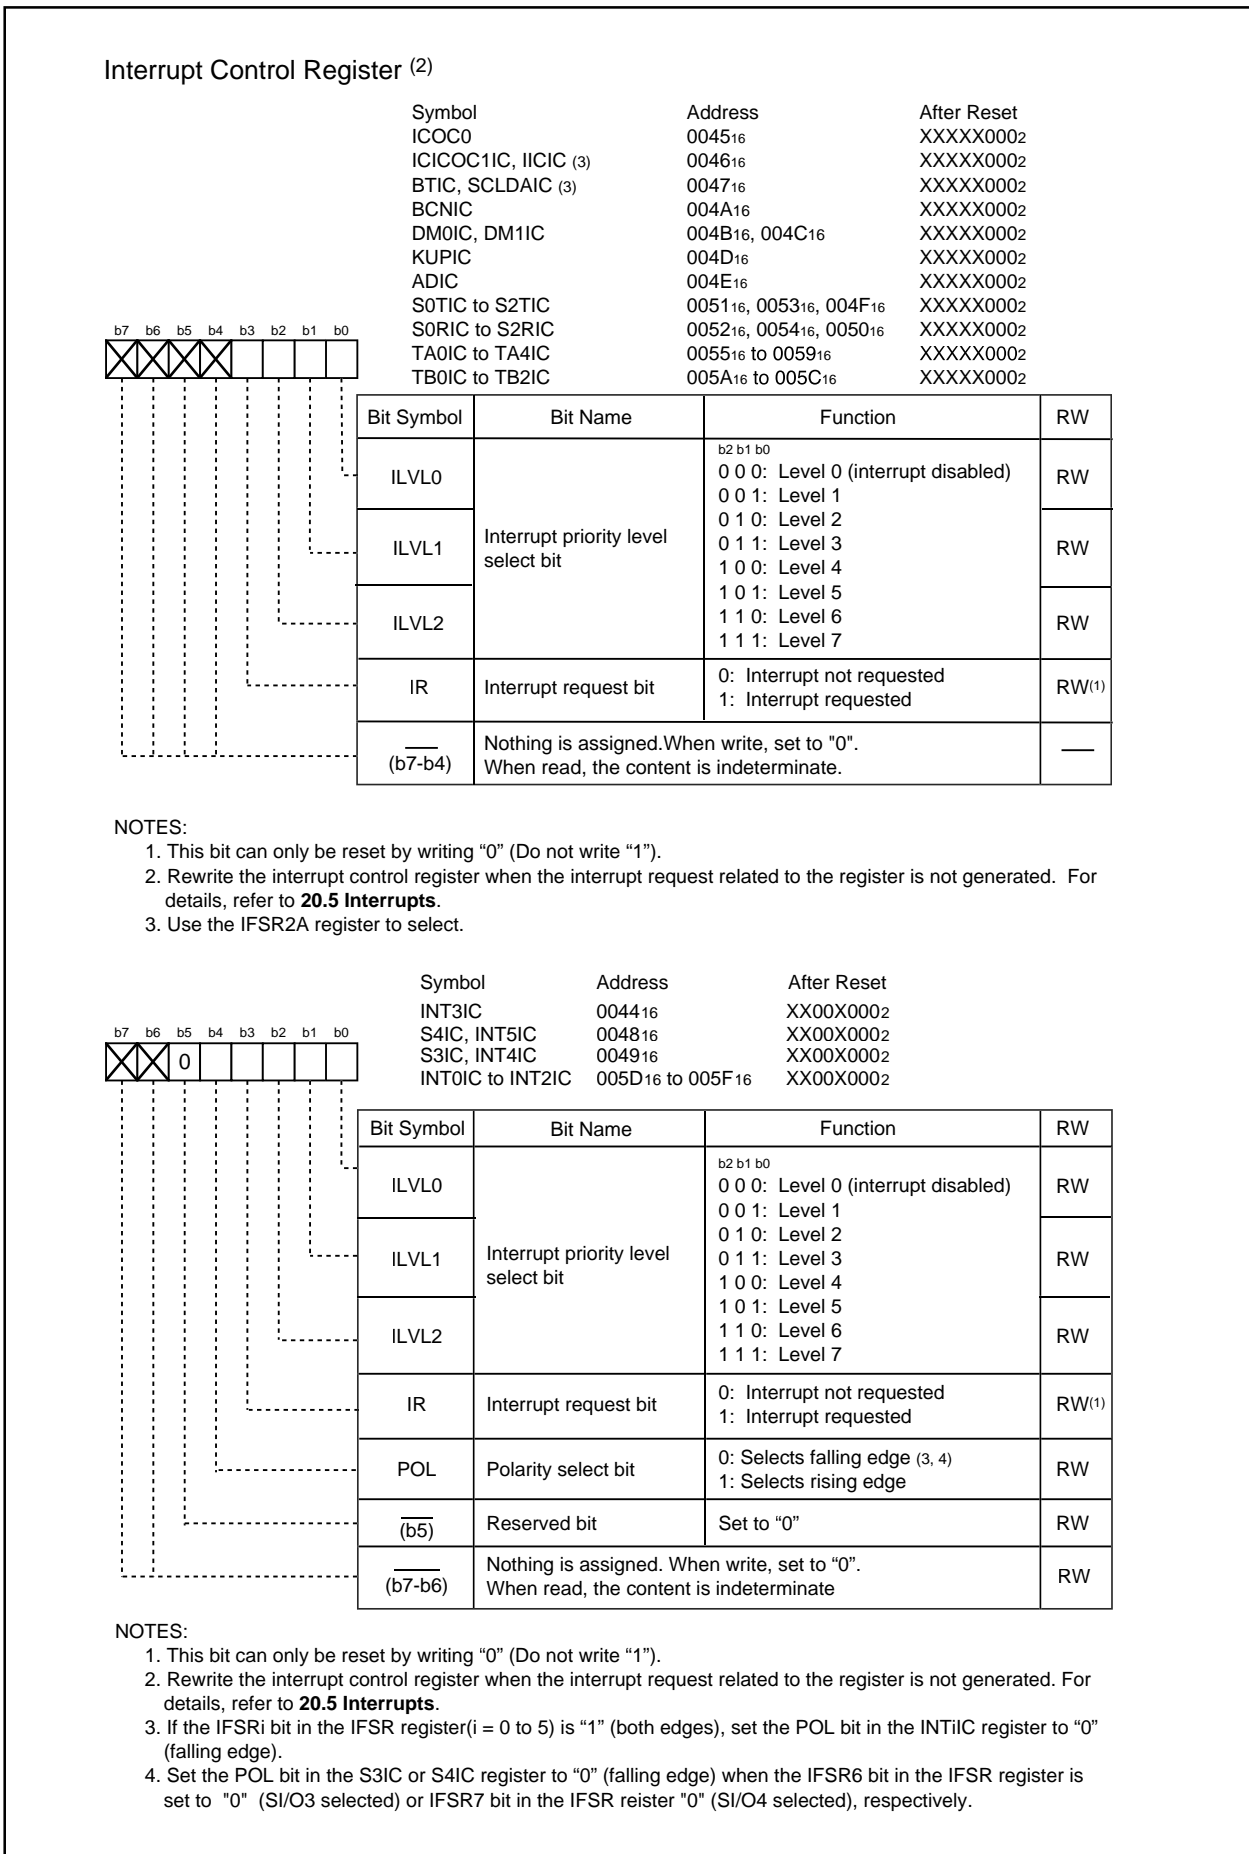

Figure 9.3 Interrupt Control Registers
**Figure 9.3** shows the interrupt control registers.